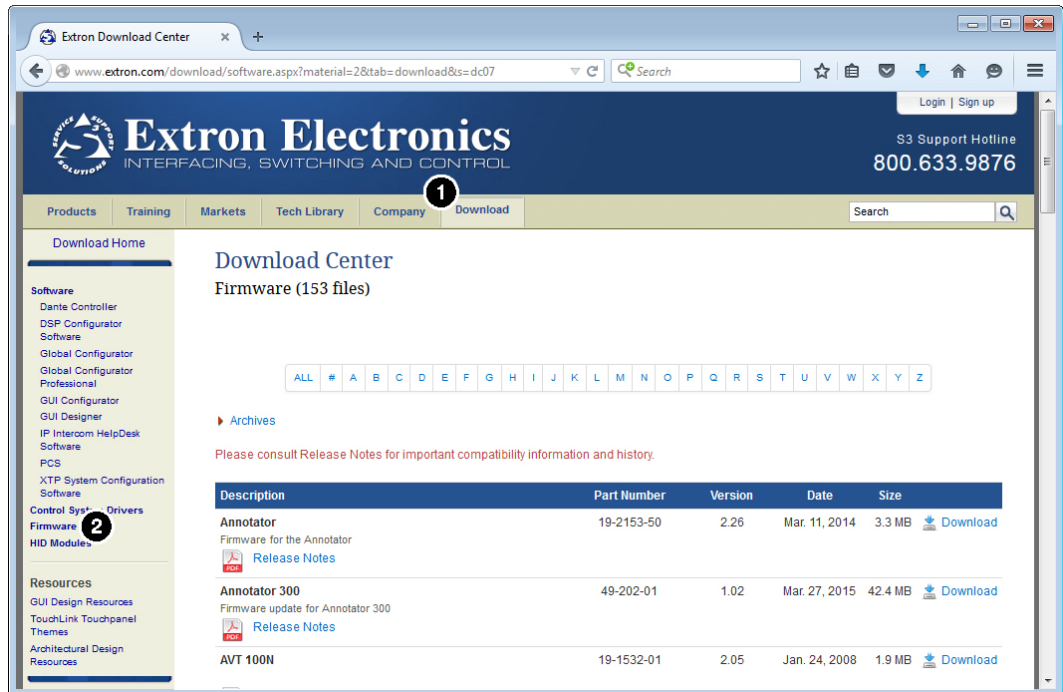

Figure 9. Downloading Firmware from the Extron Website
1. On the Extron website, click the **Download** tab (see figure 9, ①).
2. From the left sidebar, click the **Firmware** link (②).